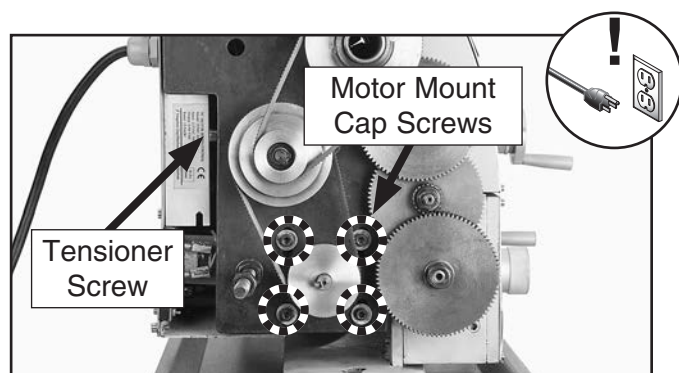

Figure 151. Motor mounting screws (Model G0768 shown).
3. Loosen tensioner screw several turns (see **Figure 151**) to remove tension on V-belts.
4. Remove motor mount cap screws (see **Figure 151**).